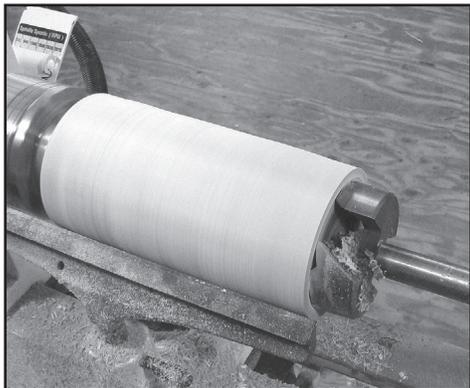

Fig. 12
2. Bore  $1\frac{1}{4}$ " into the end of the blank. Take it easy feeding the bit in. Drilling end grain, especially with this large bit, builds up heat. Excess heat can destroy your bit and your blank. **Fig. 12.**